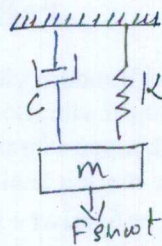

Fig. Q4 (b)
- b. Consider the spring mass system shown in Fig. Q4 (b). The mass is given a velocity of 0.1 m/sec. What will be the subsequent displacement and velocity of the mass if  $C = 100$  N-sec/m,  $K = 3000$  N/m,  $m = 20$  kg,  $F \sin \omega t = 0$ . Assume initial velocity of the mass as zero. Calculate the steady state response of the mass if  $F \sin \omega t = 5 \sin 10t$ . (10 Marks)